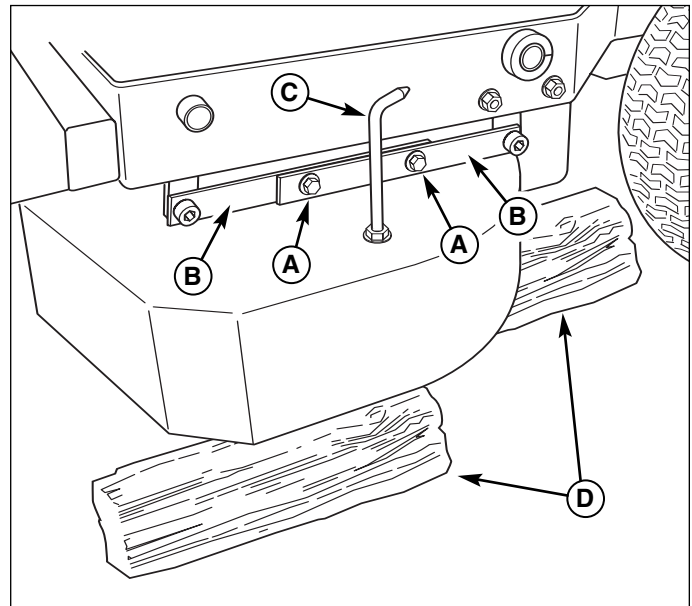

Figure 17. Deck Leveling Linkages
5. Loosen the bolts (A, Figure 17) that secure the connecting links (B) together. This will remove any tension from the mounting linkages and pivots.
7. Verify that the deck height indicator (C) is aligned with the 4" mark (if in the HIGH RANGE) or the 2" mark (if in the LOW RANGE). Adjust the indicator position if necessary.